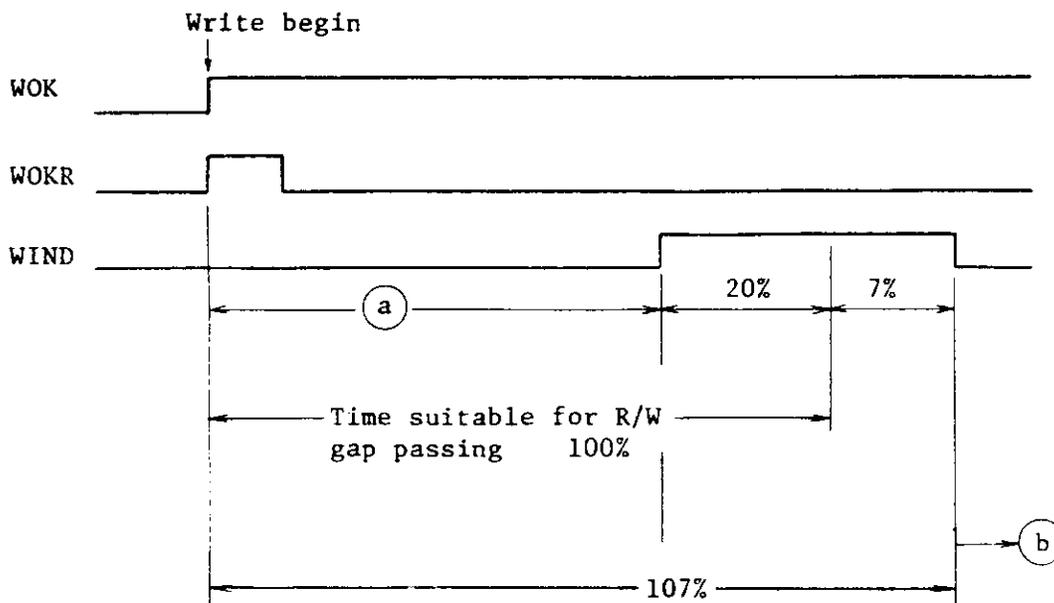

Figure D.11 Slip check timing
- (1) When data-byte (800 bpi) or DBOB pattern (1600/6250 bpi) is detected within time (a) (see Figure D.11) at write command execution. (Data is detected too early.)
- (2) When IBG is detected during writing (WOK signal on) at 800 bpi (IBG detected too early).
Error is generated when data-byte (800 bpi) or No. 5 pattern (1600/6250 bpi) is detected within time (b) (Figure D.11). (Data is detected too slow.)